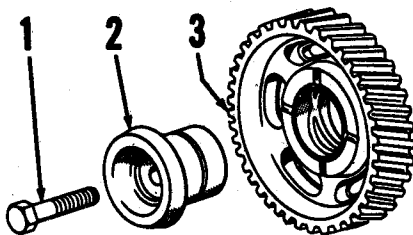

Fig. 73—Camshaft drive (idler) gear and adapter as removed from front end of cylinder block. Bushing in gear is not available separately.
88. CAMSHAFT DRIVE GEAR AND SHAFT. To remove, unscrew the self-locking cap screw and remove the camshaft drive gear and shaft (see Fig. 73) from front face of cylinder block. Renew shaft and/or gear if bushing to shaft clearance is excessive, or if bearing surfaces are scored. Shaft oil hole must be free of dirt or foreign material. Inspect gear teeth for wear or score marks; small burrs can be removed with fine carborundum stone.
To reinstall the camshaft drive gear, turn crankshaft so that No. 1 piston is at top dead center on compression stroke and turn camshaft and fuel injection pump drive gear so that timing marks point to center of camshaft drive gear location. Place the camshaft drive gear within the other three gears so that all timing marks are aligned as shown in Fig. 74, then install the shaft (2—Fig. 73) and tighten the self-locking cap screw (1) to a torque of 100-105 ft.-lbs.